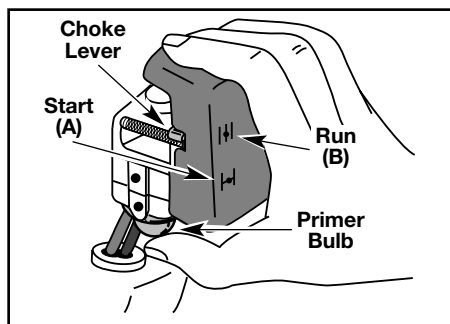

Fig. 6
3. **FULLY PRESS AND RELEASE THE PRIMER BULB 5 TO 7 TIMES. FUEL SHOULD BE VISIBLE IN THE BULB** (Fig. 6).
4. **PLACE THE CHOKE LEVER IN THE "START" POSITION (A)** (Fig. 6).
6. **PLACE THE CHOKE LEVER IN THE "RUN" POSITION (B)** (Fig. 6).